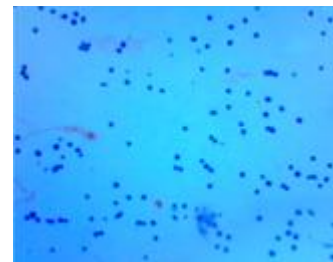

Figure 5: Standard Fixation: example of trypan blue stained fixed cells.
- Examples of stained fixed cells are shown below. High quality fixed samples have single distinct cells/nuclei with <5% aggregation and no debris. Higher levels of aggregation will lead to elevated doublets after sequencing and may indicate a poor quality cell/nuclei isolation. When quantifying fixed cells/nuclei, it is critical to avoid counting debris to avoid overestimating the number of cells/nuclei (Figure 5).